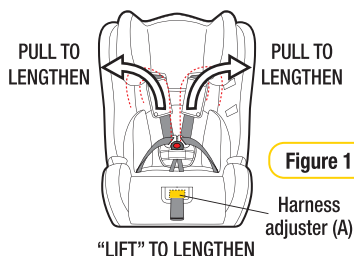

Figure 1
Step 2: To lengthen the harness "LIFT" the harness adjuster (A) (refer Figure 1) whilst grasping both shoulder harness straps and pulling. Ensure shoulder straps are pulled equally on each side.
Step 3: Lay the two harness straps (with tongues) to the sides of the child restraint (refer Figure 1).